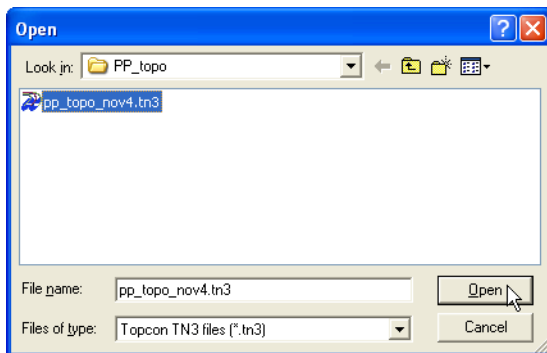

Figure 10-7. Select Surface to Compare
- On the **Open** dialog box, navigate to the folder in which the file resides, select the *Files of type* from the drop down list (either TN3 files, PL3 files, or RD3 files), select the desired file and click **OK** (Figure 10-7).